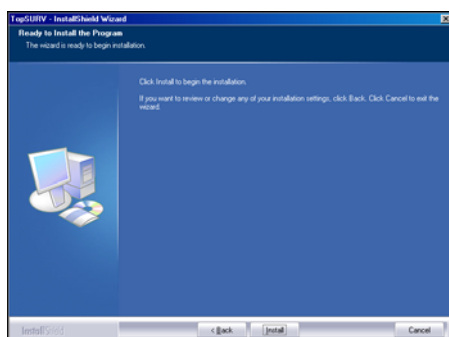

Figure 1-6. Select Device
10. The wizard will begin the installation process. Click **Install** to begin (Figure 1-6).